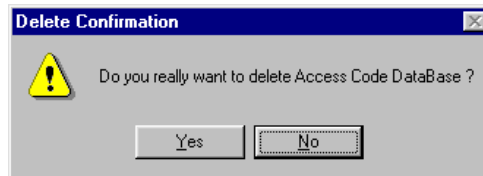

Figure 6.6
Step 2 Click on "Clear Access Code" text box and you will see figure 6.6: